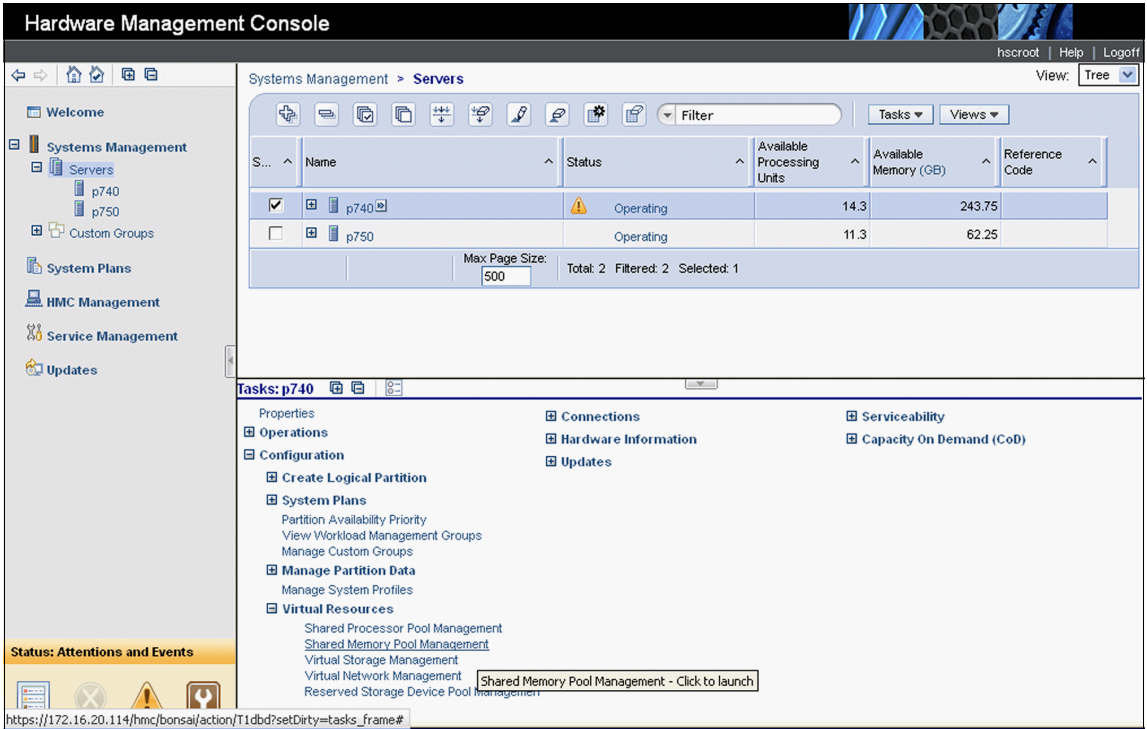

Figure 15-10 Opening the Shared Memory Pool Management window in the HMC
2. In the Tasks pane of the HMC (Figure 15-10), expand **Configuration** → **Virtual Resources**. Click **Shared Memory Pool Management**.